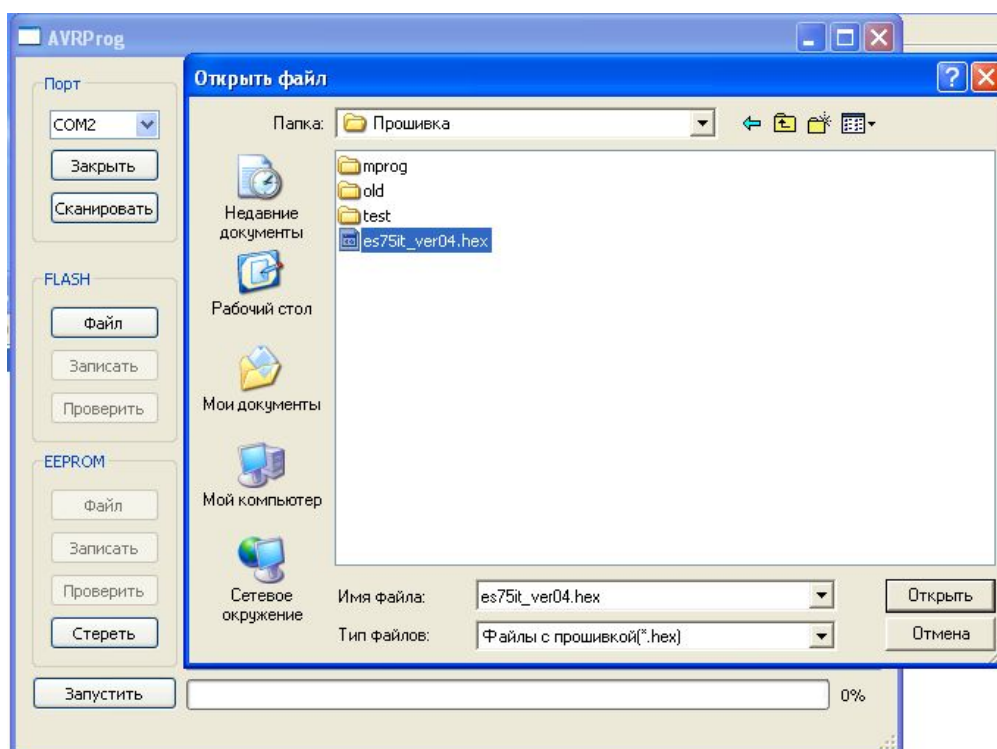

Fig.4
4. Select the new weaving file by clicking the “File” button. The window (Fig.4) will appear.